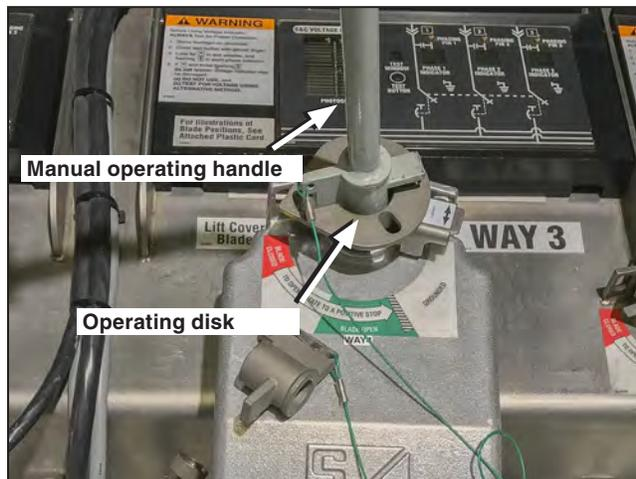

Figure 17. Insert the manual operating handle.
- STEP 6.** Insert the manual operating handle into the notch of the motor operator operating disk, as shown in Figure 17.